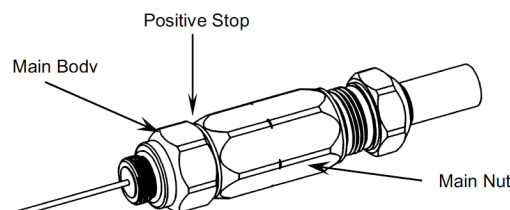

Fig. 7
6. Using two wrenches, one wrench to hold the **MAIN BODY** from rotation, continue tightening the **MAIN NUT** to the **MAIN BODY** until the positive stop is engaged as shown in Figure 7. The front leading edge of **MAIN NUT** will contact the mating surface of the **MAIN BODY** causing an increase in the tightening torque.